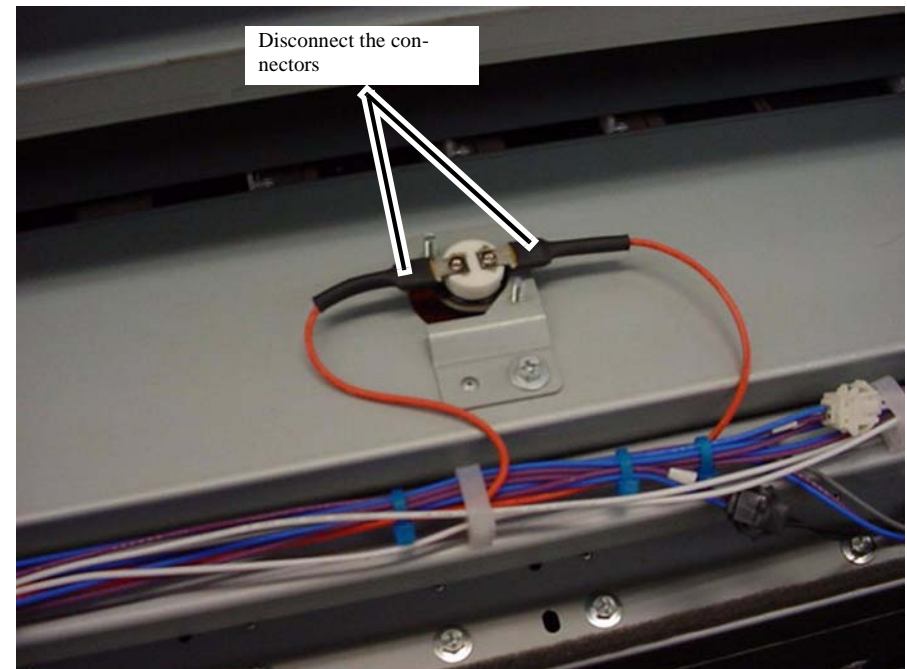

Figure 1 Thermostat
- a. Disconnect the Thermostat Connectors (Figure 1).